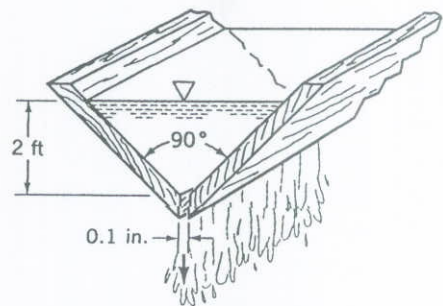

FIGURE P3.88
**3.88** A long water trough of triangular cross section is formed from two planks as shown in Fig. P3.88. A gap of 0.1 in. remains at the junction of the two planks. If the water depth initially was 2 ft, how long a time does it take for the water depth to reduce to 1 ft.?